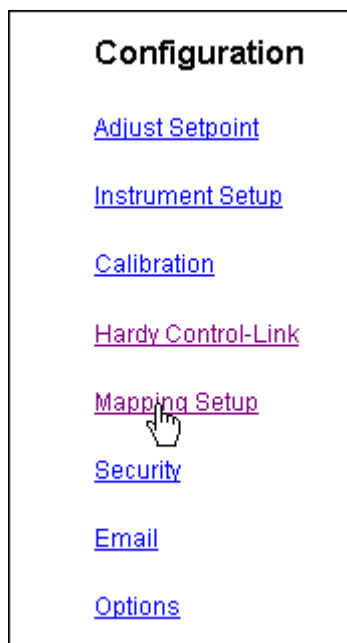

FIG. 261: CONFIGURATION PAGE/SELECTING MAPPING SETUP
Step 2. From the Main Web Page click on Configuration. The Configuration Page appears. (See Fig. 261)